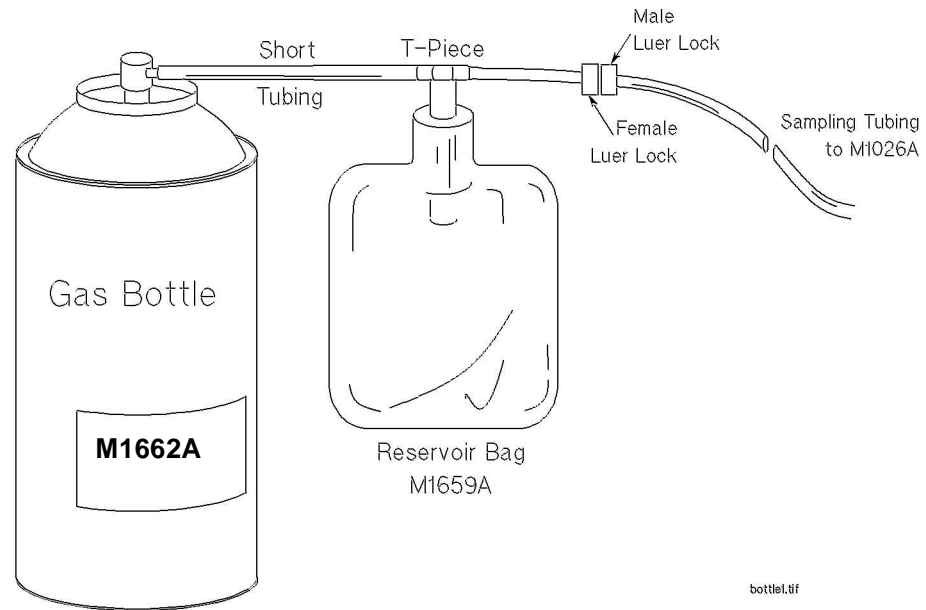

Figure 7 Span Checking Equipment including Gas Canister and Spray Valve
- 3 Connect the calibration gas bottle, the reservoir bag and the sample line as shown in Figure 7, "Span Checking Equipment including Gas Canister and Spray Valve".